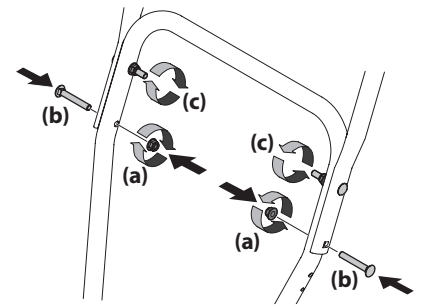

Figure 2-4
6. Attach the two carriage screws (b) and nuts (a) removed in Step 2. Finish securing the handle by tightening the top two nuts (c) loosened in Step 2. See Figure 2-4.